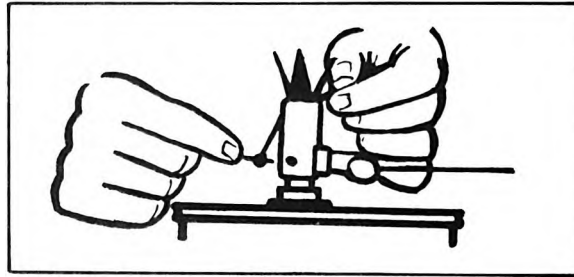

Figure 5.
3. To arm the mine (figure 5):